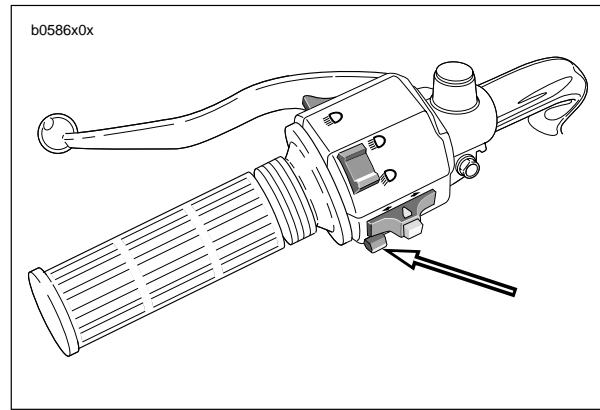

Figure 7-77. Horn Switch
3. See Figure 7-77. Depress horn switch and observe voltmeter reading.